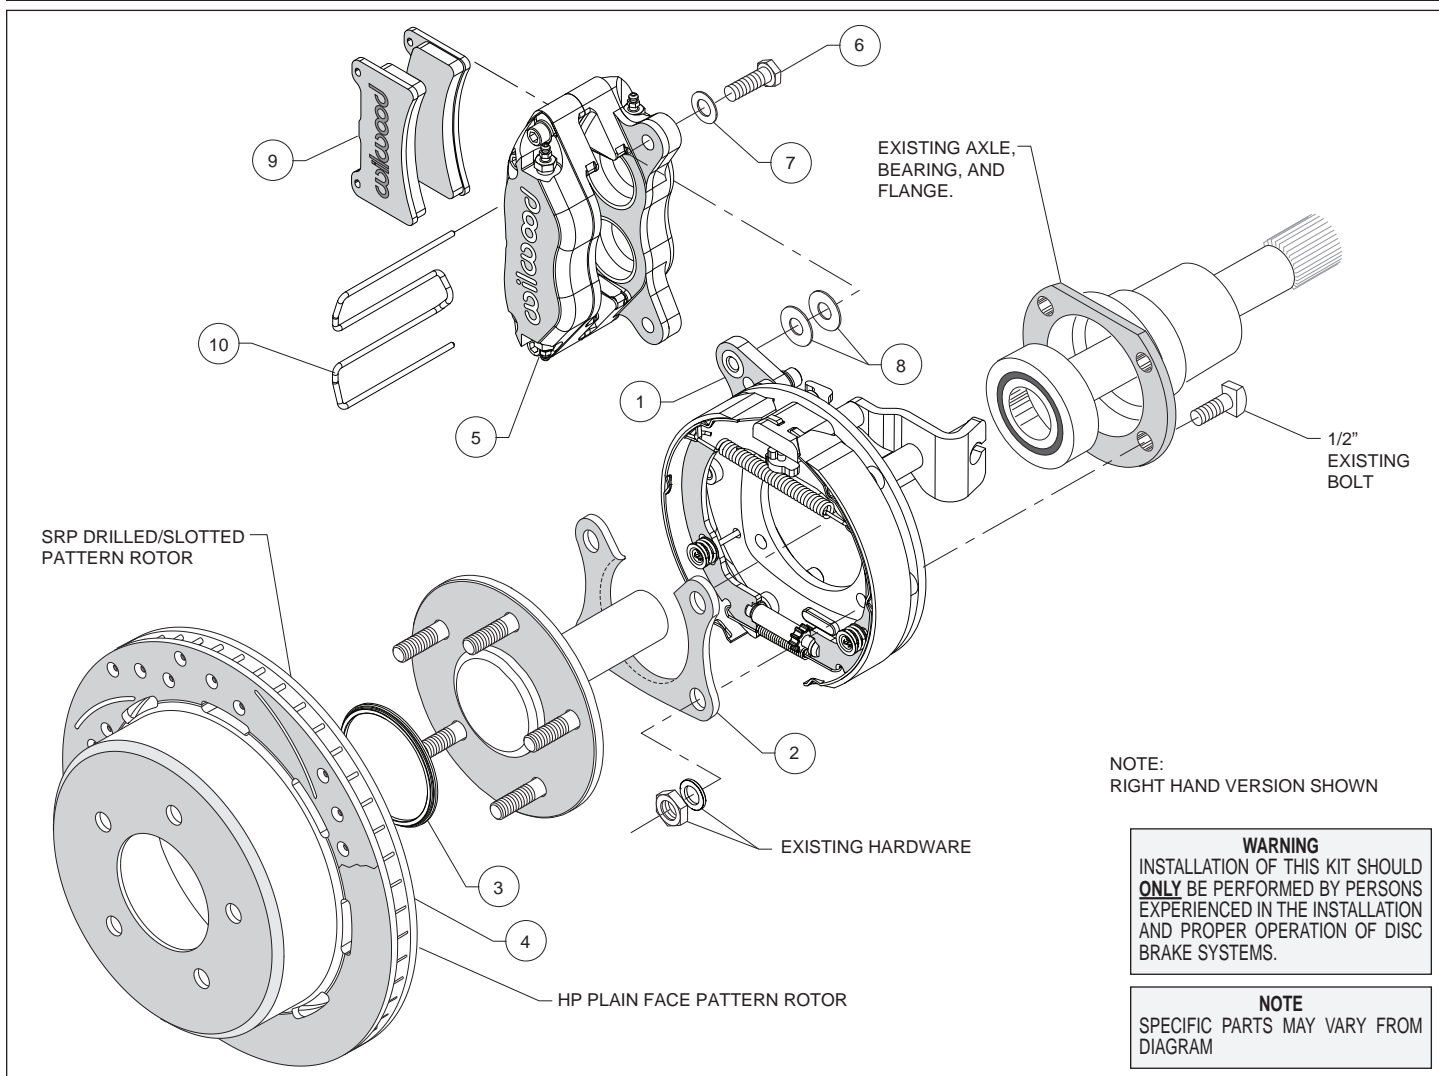
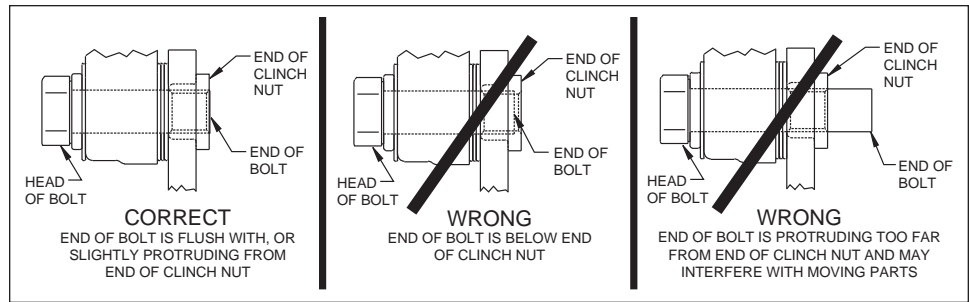

Figure 1. Typical Installation Configuration
Figure 5. Clinch Nut Engagement Diagram
Assembly Instructions (numbers in parenthesis refer to the parts list, and Figure 1 on the preceding pages): **CAUTION:** All mounting bolts must fully engage clinch nuts. Be sure to check that all bolts are either flush or protruding through flanged side of clinch nut after shimming, Figure 5.
- Orient the bracket assembly (1) as shown in Figure 1 and Photo 1 and slide it onto the axle. Insert the axle and bracket into the axle housing. Ensure that the bracket assembly backing plate fits flush against the axle housing flange.
- Install the bearing retainer (2) with the opening pointing upward and the lip facing inward (toward the bearing), as shown in Figures 1 and 4, and Photo 2. Secure retainer and bracket assembly to the axle housing flange using the Original Equipment Manufacturer (OEM) bolts, washer, and nuts, Figure 1. Apply red *Loctite*® 271 to the OEM bolt threads and torque to OEM specifications.
- Slide the rotor registration adapter (3) onto the axle register on the axle flange with the smaller O.D. facing toward the rotor/hat (4), Photo 3. Align the hole pattern in the rotor/hat with the stud pattern on the axle flange and slide into place, Figure 1 and Photo 4. **NOTE:** The rotor/hat must fit flush against the axle flange or excessive rotor run out may result. Install three lug nuts (finger tight) to keep the rotor/hat assembly in place while continuing with the installation. **NOTE:** Some OEM and after market axles come with stud sizes larger than 0.50" diameter. Verify stud size and have a qualified machine shop drill the bolt circle of the hat/rotor to the correct stud size, if necessary.
- NOTE:** Please reference the caution statement at the beginning of the assembly instructions. Mount the caliper (5) onto the caliper mounting bracket (1) using bolts (6) and washers (7), as shown in Figure 1. Initially place two .035" thick shims (8) on each bolt between the caliper and the bracket, Photo 5. Temporarily tighten the mounting bolts and view the rotor (4) through the top opening of the caliper. The rotor should be centered in the caliper, Photo 6. If not, adjust by adding or subtracting shims between the bracket and the caliper. Always use the same amount of shims on each of the two mounting bolts. **NOTE:** The end of each bolt must be flush with or slightly protruding from the head of the clinch nut, as shown in Figure 5. If necessary place spare shims between washer (7) and caliper mounting ear to achieve the proper clinch nut engagement. Once the caliper alignment and clinch nut engagement are correct, remove the bolts one at a time, apply red *Loctite*® 271 to bolt threads, and torque to 40 ft-lb.